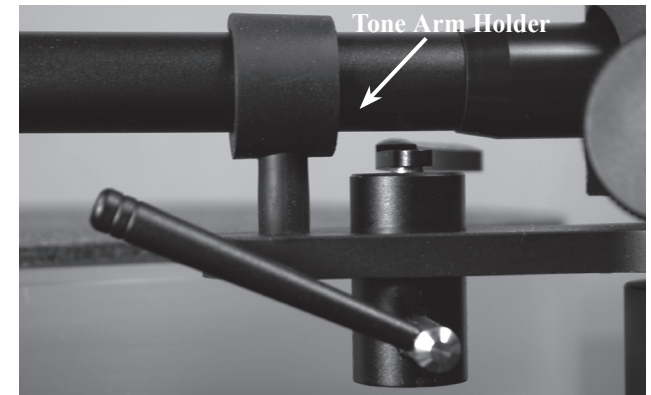

Figure 53
2. Release the Tone Arm from the Tone Arm Holder. Refer to figure 53.